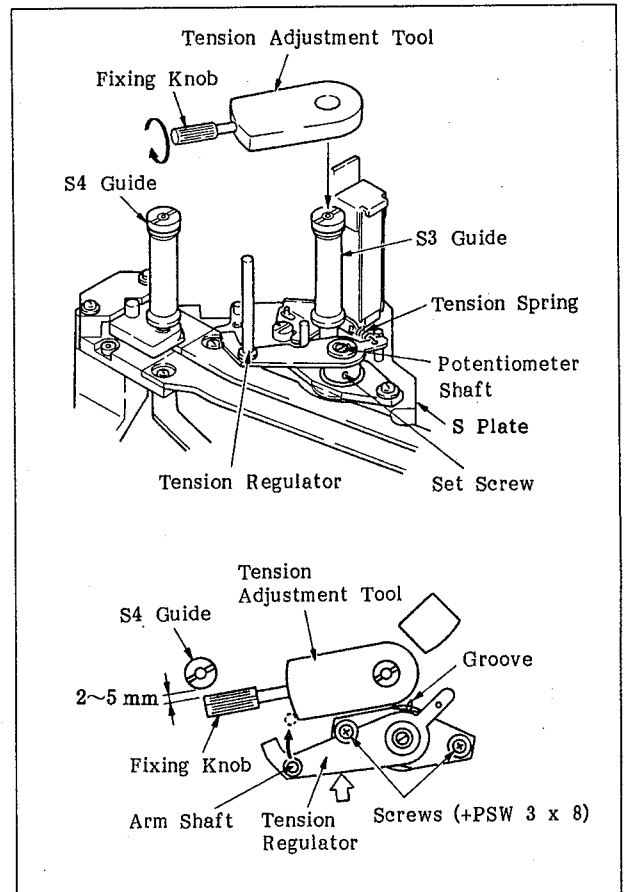

Fig. 9-6-1 Tape Tension Adjustment
3. Press the **F3** (C), the **4**, the **SET**, the **F6** (F), the **2**, the **SET**, and the **<** keys in that order to set the unit in threading condition without threading a cassette tape.
4. Loosen the two set screws (+PSW 3 x 8) that hold the tension regulator by one or two turns. Match the groove of the tension regulator to the groove of the S plate, as shown in Fig. 9-6-1 and then tighten the set screws.
5. Put the tension adjustment tool over the upper flange of the guide roller and tighten the fixing knob while pushing the tool down. (Fig. 9-6-1)
8. Rotate the potentiometer shaft clockwise slowly with a screwdriver and find the point where the indicated value of the digital voltmeter changes from the positive value to the negative value. Then obtain the central value (V) from the maximum value and the minimum value.
9. Push the position indicated by the arrow to push the arm shaft of the tension regulator against the tension adjustment tool, as shown in the top view of Fig. 9-6-1. Adjust by rotating the potentiometer shaft so that the indicated value of the digital voltmeter satisfies the following specification.
**Standard: Central value (V)  $\pm 50mV$**
**Standard: Central value (V)  $\pm 150mV$**
14. Loosen the two set screws (+PSW 3 x 8) that hold the tension regulator by one or two turns and then push the arm shaft of the tension regulator against the tension adjustment tool. (Fig. 9-6-1)
15. Adjust so that the indicated value of the digital voltmeter satisfies the following specification by inserting the screwdriver in the groove, shown in the top view of Fig. 9-6-1, and rotating it. If the adjustment cannot be made, repeat Steps 4 through 15.
17. Press the **[F5]** (E), **[F2]** (B) and **[SET]** keys on the control panel in that order to indicate the tension regulator output on the display of the control panel.
18. Press the **[F7]** (\$), **[F7]** (\$), **[F1]** (A), **[8]**, **[9]**, **[0]** and **[SET]** keys on the control panel in that order. The following message will be displayed.
19. Push the arm shaft of the tension regulator against the tension adjustment tool, as shown in the top view of Fig. 9-6-1.